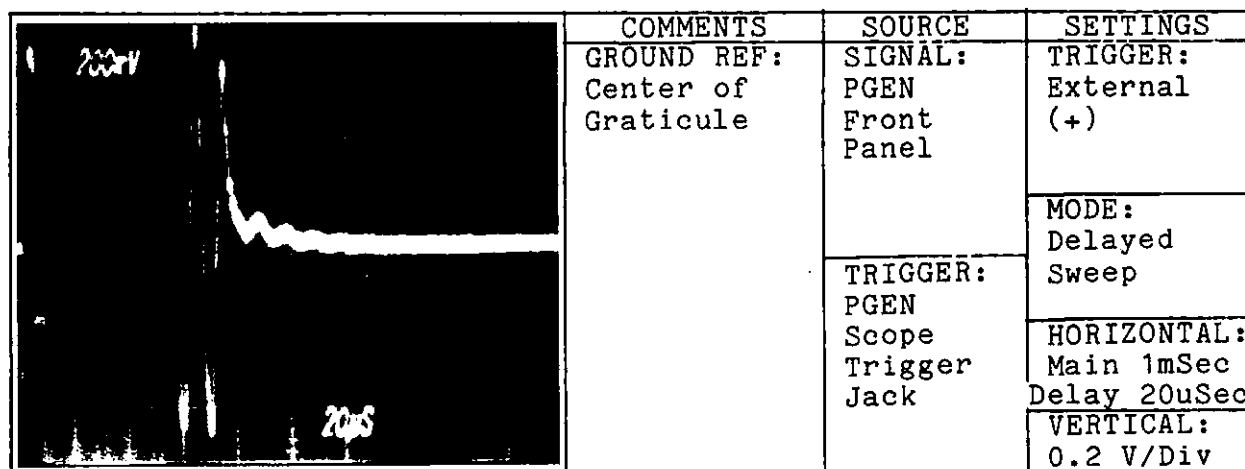

Figure 2.36. Transmitter Drive Waveform without Tail Drive
2.7.1.1 INITIAL ADJUSTMENT PROCEDURE The following are step by step instructions for adjusting the Group Droop module. Figures 2.36 through 2.37 referenced during these steps are signal waveforms for a dual-rated station. If you are unable to obtain any of the waveforms described in this procedure, first ensure correct test equipment setup. Return the module for repair if this doesn't correct the problem. Due to cross-rate blanking either rate signals may disappear momentarily.
a. Monitor the Transmitter Drive Waveform at the PGEN front panel jack. Using the delayed sweep mode of the oscilloscope (20usec/div), display the drive waveform for the 5th pulse (see figure 2.36).